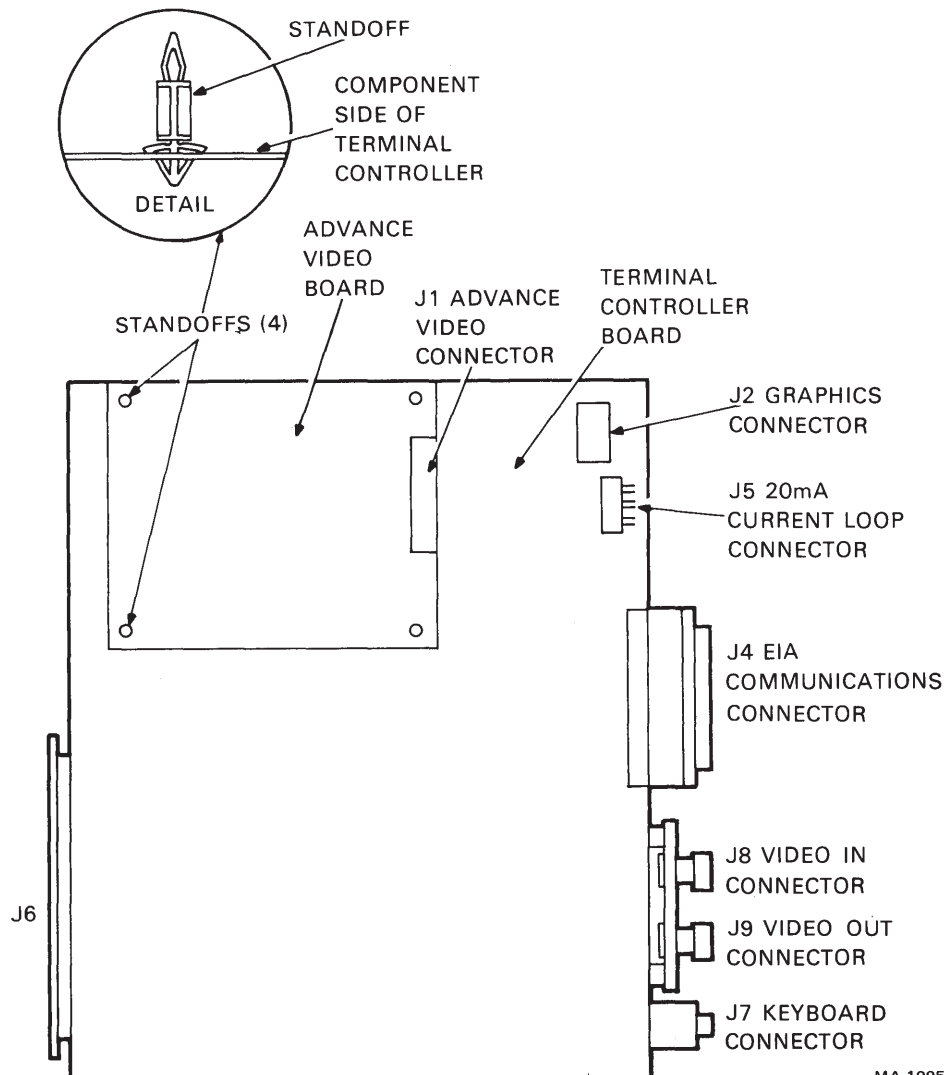

Figure 4-2
10. Place the terminal controller board on a flat surface with the component side up (Figure 4-2).